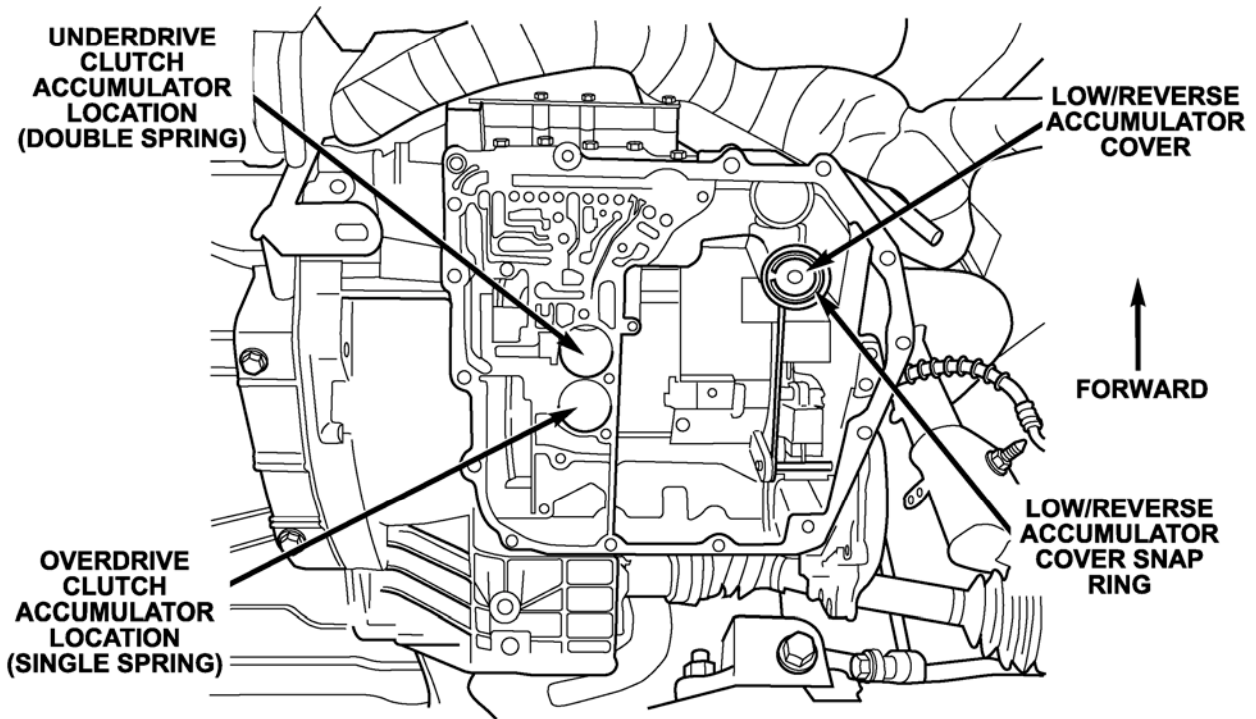

Figure 2 - Bottom View
16. Remove the original low/reverse accumulator snap ring (Figure 2).
19. With the low/reverse accumulator and springs in place, install the new low/reverse accumulator cover and O-ring into the transaxle case (Figure 2).
20. Install the low/reverse accumulator snap ring (Figure 2).